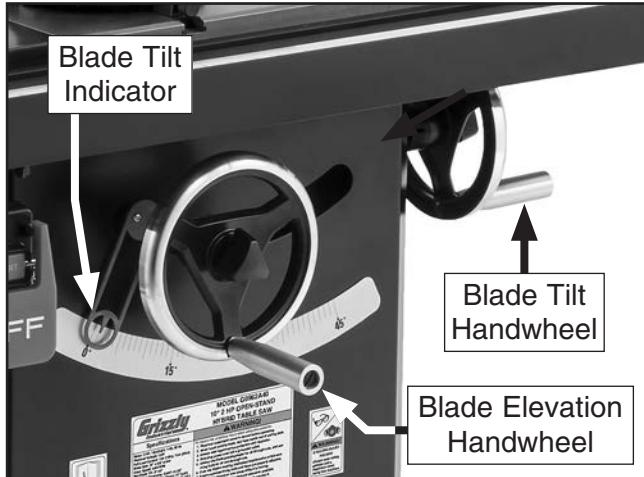

Figure 16. Blade tilt indicator and angle scale.
- Turn blade tilt handwheel until blade tilt indicator points to 15° on blade angle scale (see **Figure 16**).